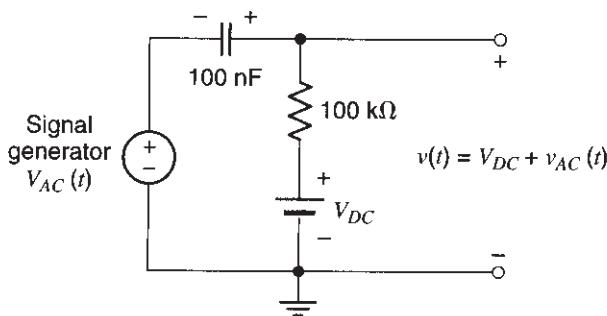

Fig. 3
1. Hook up the circuit of Fig. 1, using connections as short as possible, and with the voltage of PS1 set to zero for now. The chip that will be used in this experiment is the CD4007, the same chip used in the first half of Experiment 11. Fig. 3 of that experiment shows the pin assignment for the transistor we will be using. The circuit of Fig. 1 will be used in the following steps to investigate the use of a MOSFET as an amplifier.
12. Consider the circuit of Fig. 3. It contains a DC source V_{DC} and an AC source $v_{AC}(t)$. The output voltage of the circuit is affected by both of these voltages. If the frequency of the signal is much higher than $1/(2\pi RC)$, the output of the circuit will almost be $v(t) = V_{DC} + v_{AC}(t)$, as indicated in the figure. To see this, consider the effect of each voltage source in the circuit by itself, as explained below.
Assume now that the DC voltage in Fig. 3 is zero instead; this is equivalent to assuming that the DC source is replaced by a short, as shown in Fig. 4(b). The capacitor and resistor now form a high-pass filter with cutoff frequency $1/(2\pi RC)$ (see Experiment 7). If the frequency of the signal is much higher than this, the signal will pass to the output; in other words, $v(t) = v_{AC}(t)$, as indicated in the figure.
Since the circuit is *linear*, superposition will apply: When *both* voltage sources in Fig. 3 are active, the output voltage will be the sum of the individual results in Figs. 4(a) and (b), that is, $v(t) = V_{DC} + v_{AC}(t)$, as indicated in Fig. 3. Thus, we have a circuit in which the AC voltage is coupled to the output through the capacitor (which is, for this reason, called a *coupling capacitor*) and is added to the DC voltage. At the same time, the capacitor blocks the DC voltage from reaching the AC source.
Hook up the circuit of Fig. 3. (CAUTION: It is unlikely that the 100 nF capacitor will have polarity indicated on it, but if it does, make sure to observe it, as shown in Fig. 3.) Use a DC voltage of 2 or 3 volts and a signal voltage with an amplitude of about 0.25 V and a frequency of 1 kHz. [Is this frequency much higher than
13. Remove PS1 from the circuit of Fig. 1, and instead use the circuit of Fig. 3 to produce the voltage v_{GS} , as shown in Fig. 5 (for now, set the signal amplitude to 0). The resistor shown connected across the output is meant to indicate any load the amplifier is supposed to drive; for our purposes, this load will be just a scope probe. The probe has a large input resistance (typically $1 \text{ M}\Omega$) and can be connected there without disturbing the operation of the amplifier. Capacitor C_2 is a coupling capacitor, which allows the AC variation of v_{DS} to appear across the load but blocks the DC value of that voltage. Essentially, C_2 forms a high-pass filter together with the load resistance. This filter passes the (high-frequency) AC variation of v_{DS} to the load but rejects the DC (i.e., zero-frequency) part of v_{DS} . (In the unlikely event that the capacitors indicate polarity on them, make sure to observe it, as shown in Fig. 5.)